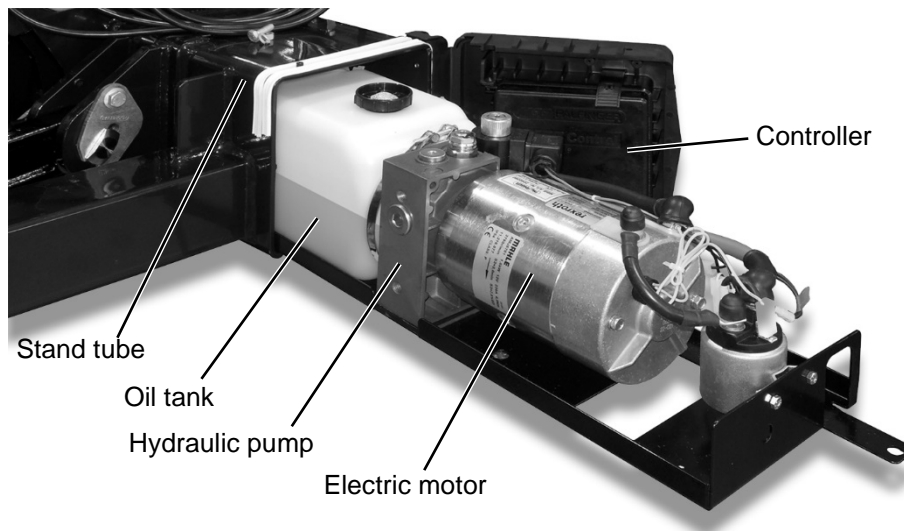

Figure 49: Hydraulic unit
- ▶ Pull out the hydraulic unit until the oil level in the oil tank is visible (see Figure 49).